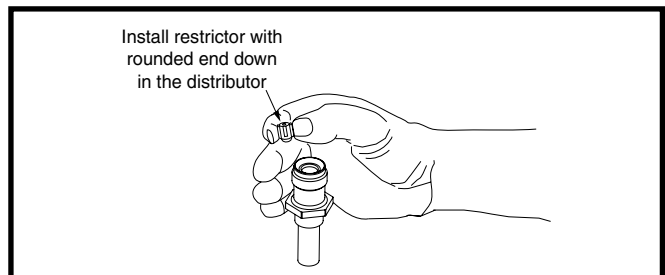

Figure 8. Restrictor Insertion into Distributor Body
6. Insert the new orifice into the distributor body, rounded end down. See Figure 8.